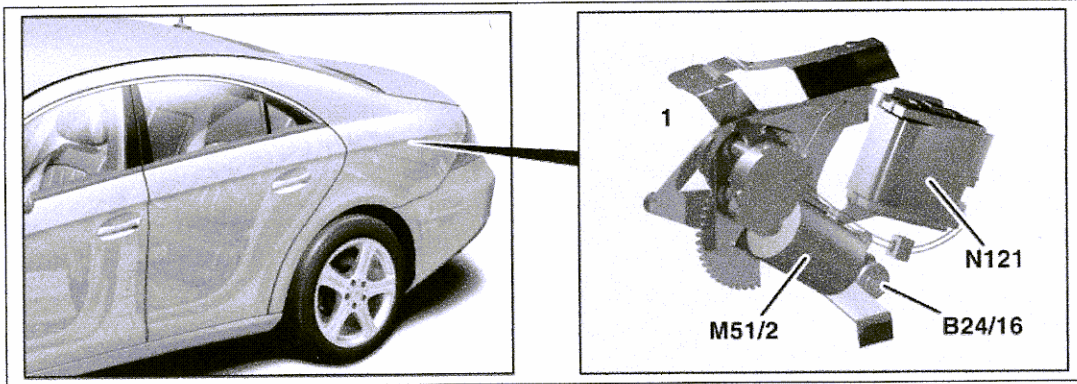

Figure 1
4. Remove and replace potentiometer B24/16 (Figure 1).